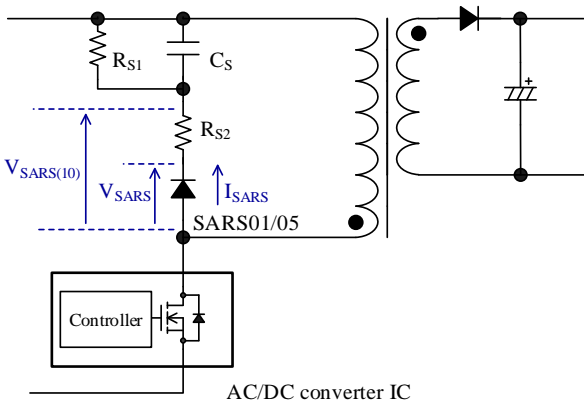
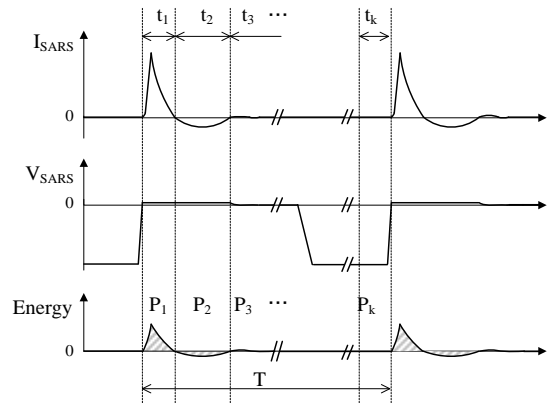

Figure 22. Typical Application
Figure 23. SARS01/05 Current
Figure 22 shows a typical application using the SARS01/05. Figure 23 shows the operating waveforms of the SARS01/05. The power dissipation of the SARS01/05 is calculated as follows:
- 2) The each average energy ( $P_1, P_2 \dots P_k$ ) is measured at period of each polarity of  $V_{SARS} \times I_{SARS}$  ( $t_1, t_2, \dots t_k$ ) as shown in Figure 22 by the automatic measurement function of the oscilloscope.
- 3) The power dissipation of the SARS01/05,  $P_{SARS}$ , is calculated by Equation (1):